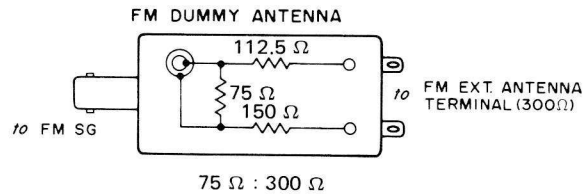

Figure 28
- Connect to FM Antenna terminal through FM dummy antenna (300Ω). (See Figure 28 Dummy Ant.)